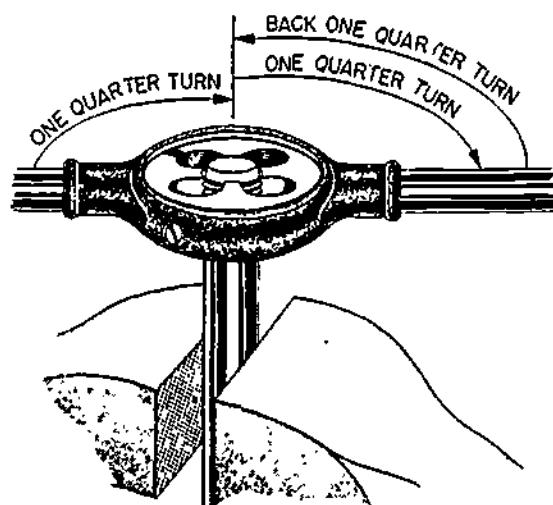

Figure 17-33. Procedure for Threading Rod
- b) To thread the rod, place it in a vise and start the die squarely with the work. Hold one handle with each hand and apply pressure while turning it clockwise until you feel the dies cutting into the rod. Use a generous amount of good-grade thread-cutting oil while cutting the thread. When the die has started to cut, rotate the die stock one-half turn and back it off one-quarter turn, as illustrated in Figure 17-33. This breaks the metal chips. When the thread is cut to the desired length, remove the die and try the thread in the intended location.